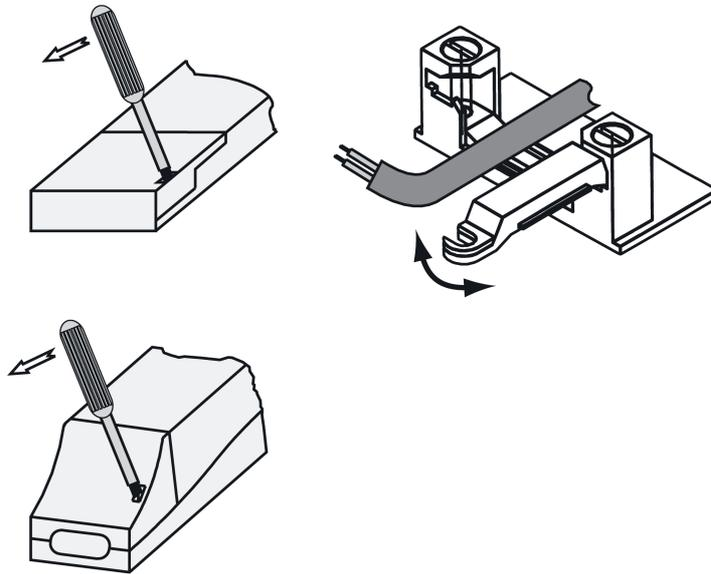

Figure 1: Terminal cover and strain relief
- Remove any terminal covers (Figure 1).
- Fit the strain relief (Figure 1).